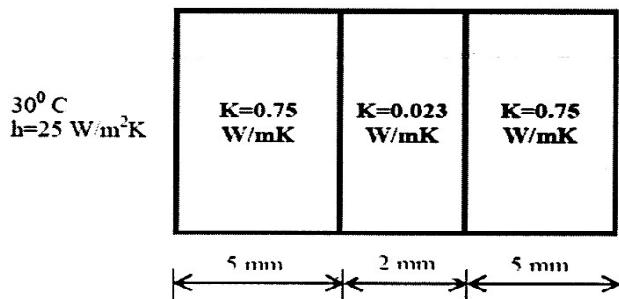

Figure 4
- b) A composite wall consists of three materials as shown in figure 4. The outer temperature of wall is $T_0 = 22^\circ \text{C}$. Convection heat transfer takes place on the inner surface of the wall with $T_\infty = 30^\circ \text{C}$ and $h = 25 \text{ W/m}^2\text{K}$. Determine the temperature distribution in the wall. [8]